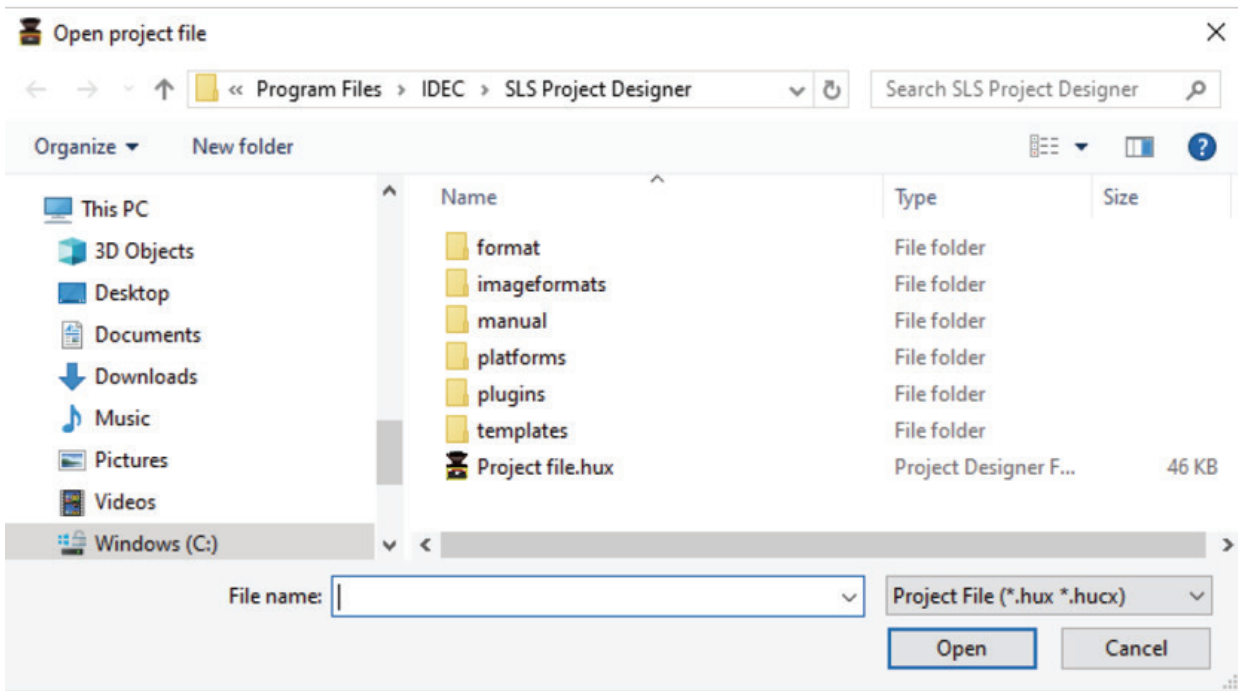

Figure 7-56 Open project file
- Dialog box will appear (Figure 7-56). Select the project file [*****.hux] to open.